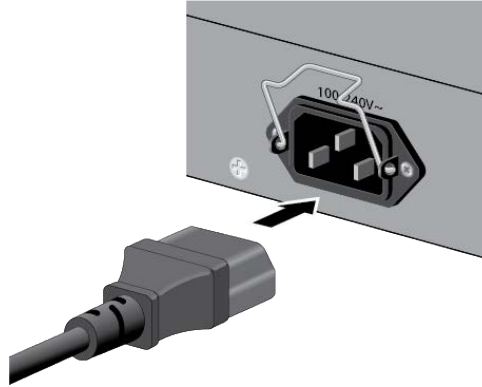

Figure 55. Connecting the AC Power Cord
2. Connect the AC power cord to the AC power connector on the rear panel. Refer to Figure 55 on page 81.